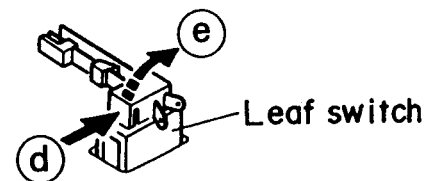

Fig. 2-37
### ■ Leaf switch (Fig. 2-37)
Press the leaf switch in the direction of the arrow ① and then remove it in the direction of the arrow ② referring to Fig. 2-37.